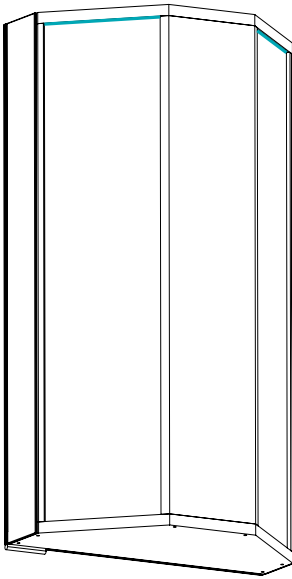

Fig 2. Mounting Points
7. Temporarily hang the cabinet on the brackets, *see Fig. 2*, to mark the position of the fixing holes on the underside of the cabinet, then remove the cabinet. Using a suitable drill bit, drill a hole and insert wall plugs as per stage 5.